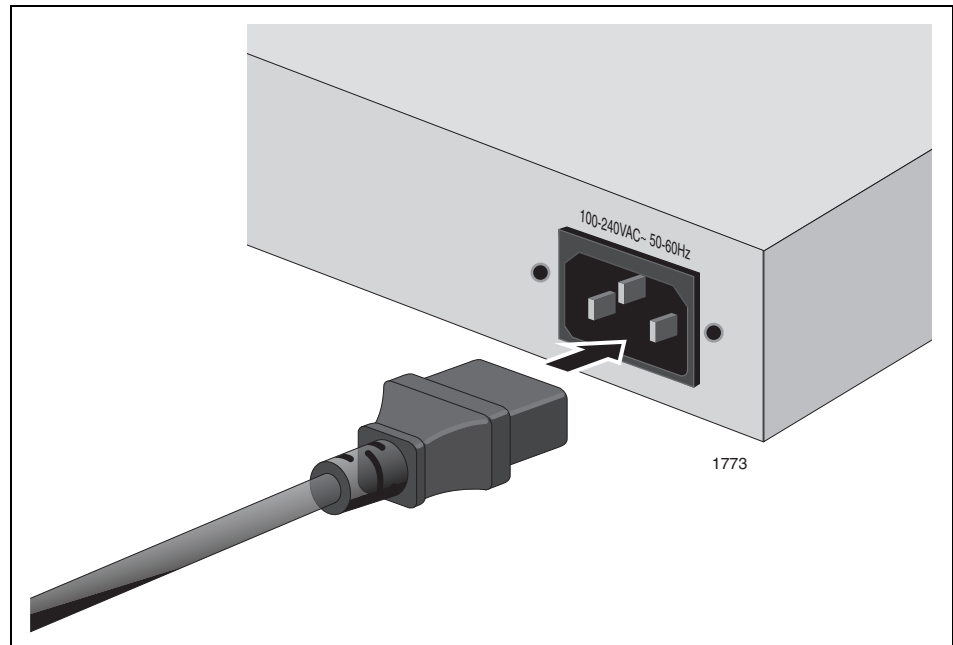

Figure 7. Connecting the AT-FS705L AC Power Cord to Switch
1. Apply AC power to the switch by plugging the power cord into the AC power connector on the back panel of the unit, as shown in Figure 7.